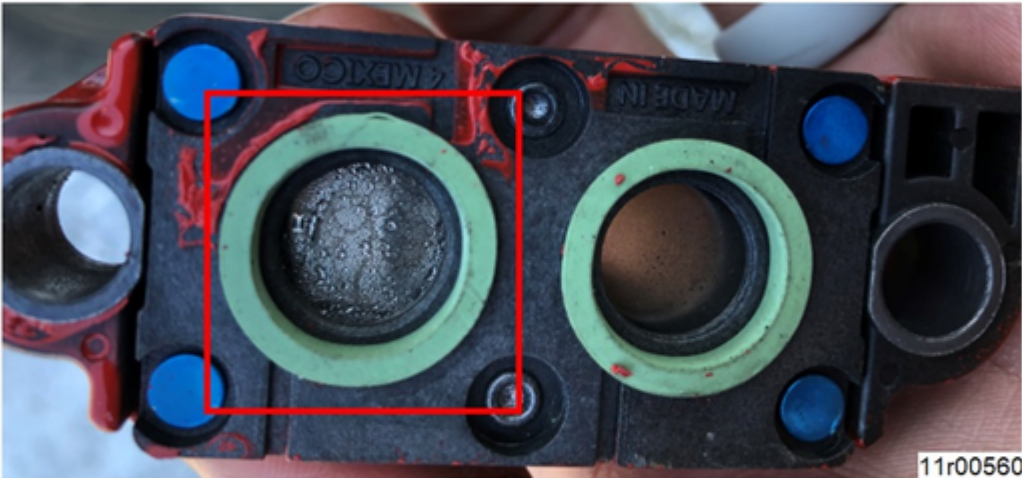

Figure 1, Condensation on the EGR Differential Pressure Sensor.
- If ice or condensation is found (See Figure 1 below), gently wipe away with a clean towel. Be sure **not** to apply too much pressure on the sensor elements, as they can become damaged.